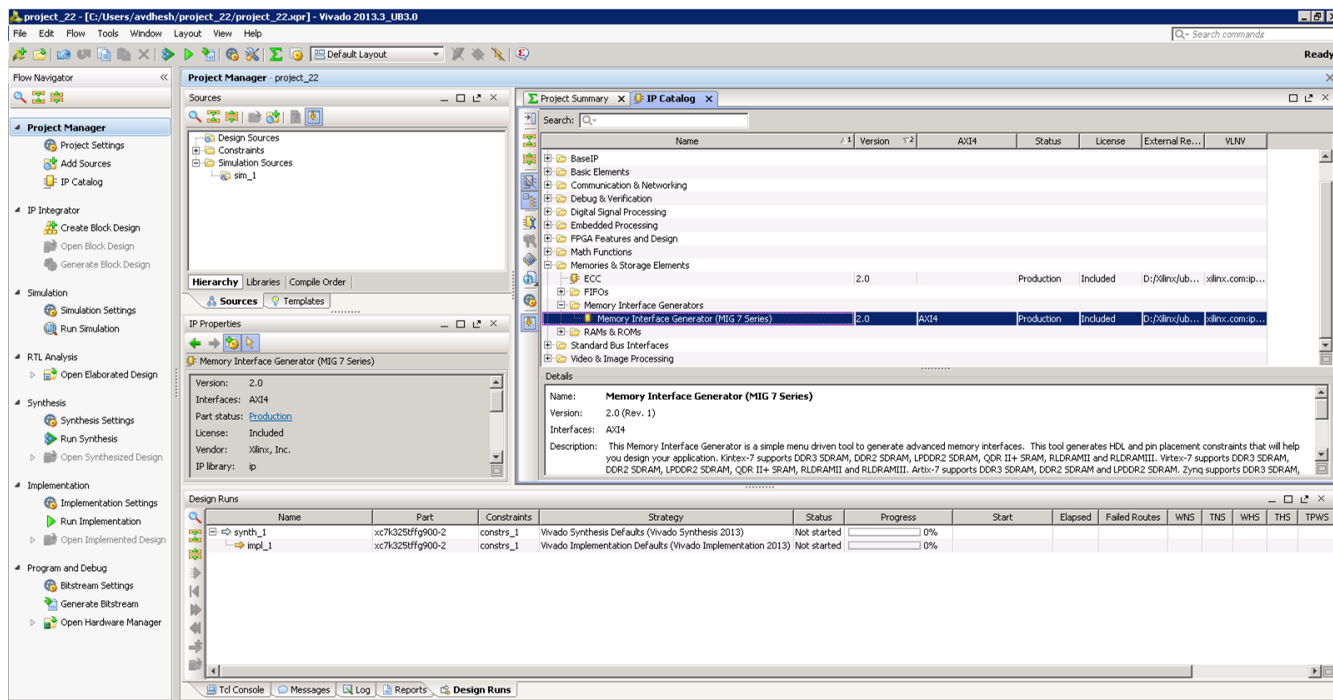

Figure 3-12: IP Catalog Window – Memory Interface Generator
11. Click **IP Catalog** on the **Project Manager** window to open the Vivado IP catalog window. The IP catalog window appears on the right side panel (see Figure 3-12, highlighted in a red circle).
12. The MIG tool exists in the **Memories & Storage Elements > Memory Interface Generators** section of the IP catalog window (Figure 3-12) or you can search from the Search tool bar for the string "MIG."